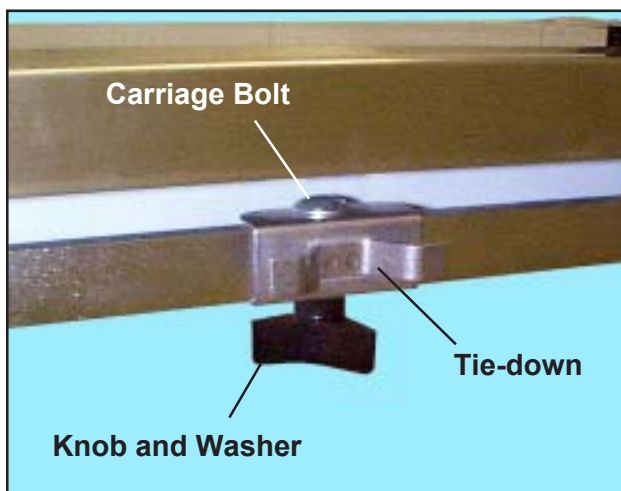

Figure 13. Tie-down Assembly
1. Unscrew and remove the knob from the bottom of the tie-down (Figure 13). Don't lose the washer.
2. Lift the carriage bolt up and out of the tie-down (Figures 13 and 14).
1. Place the tie-down in position on the tie-down rail (Figure 13).